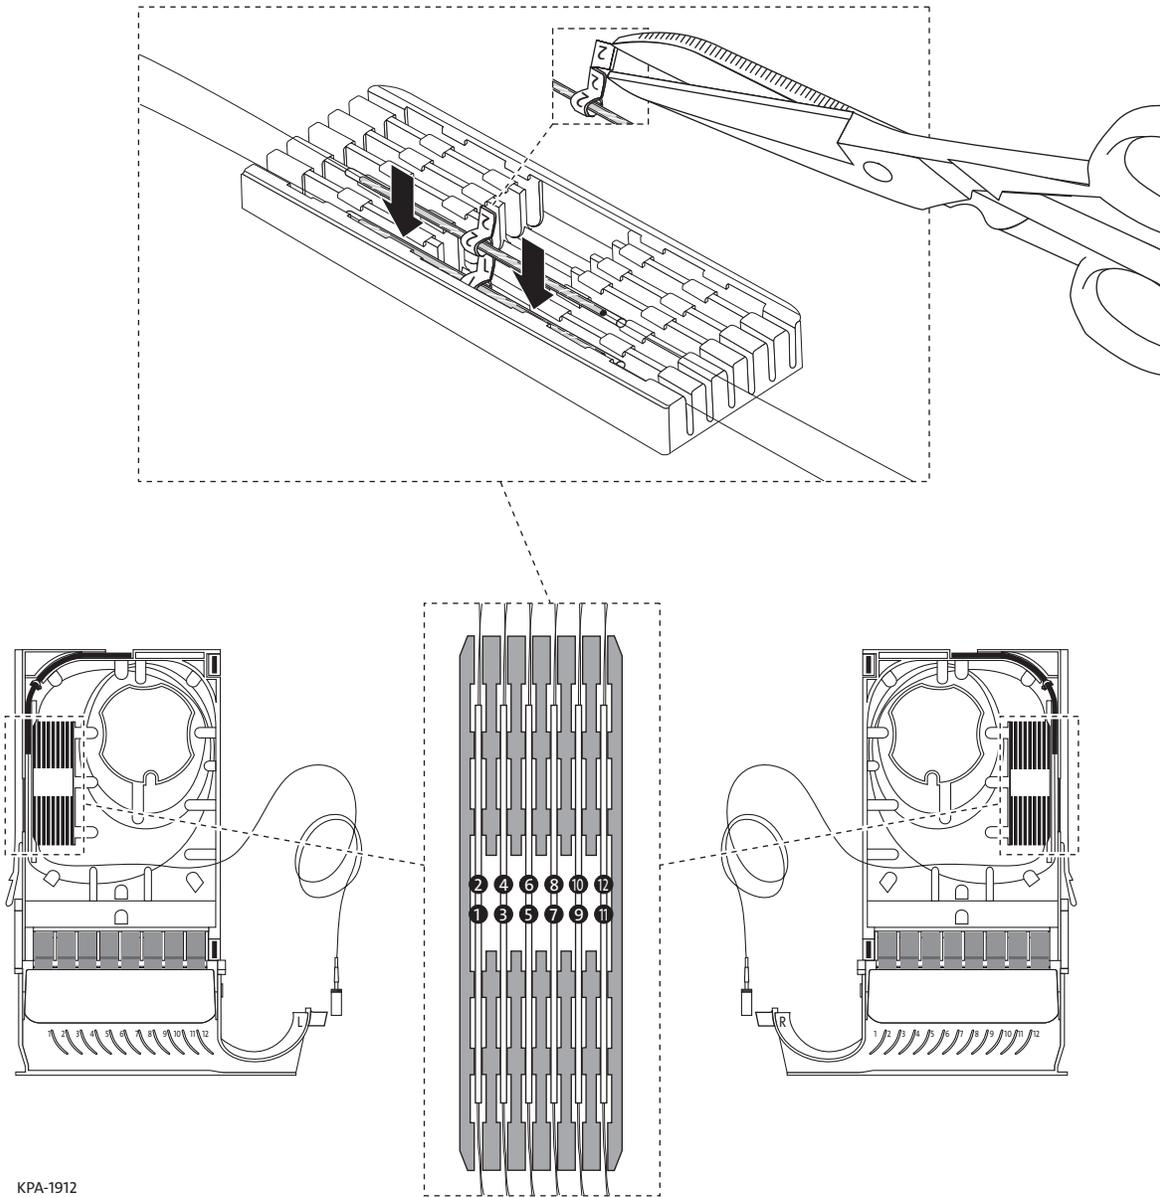
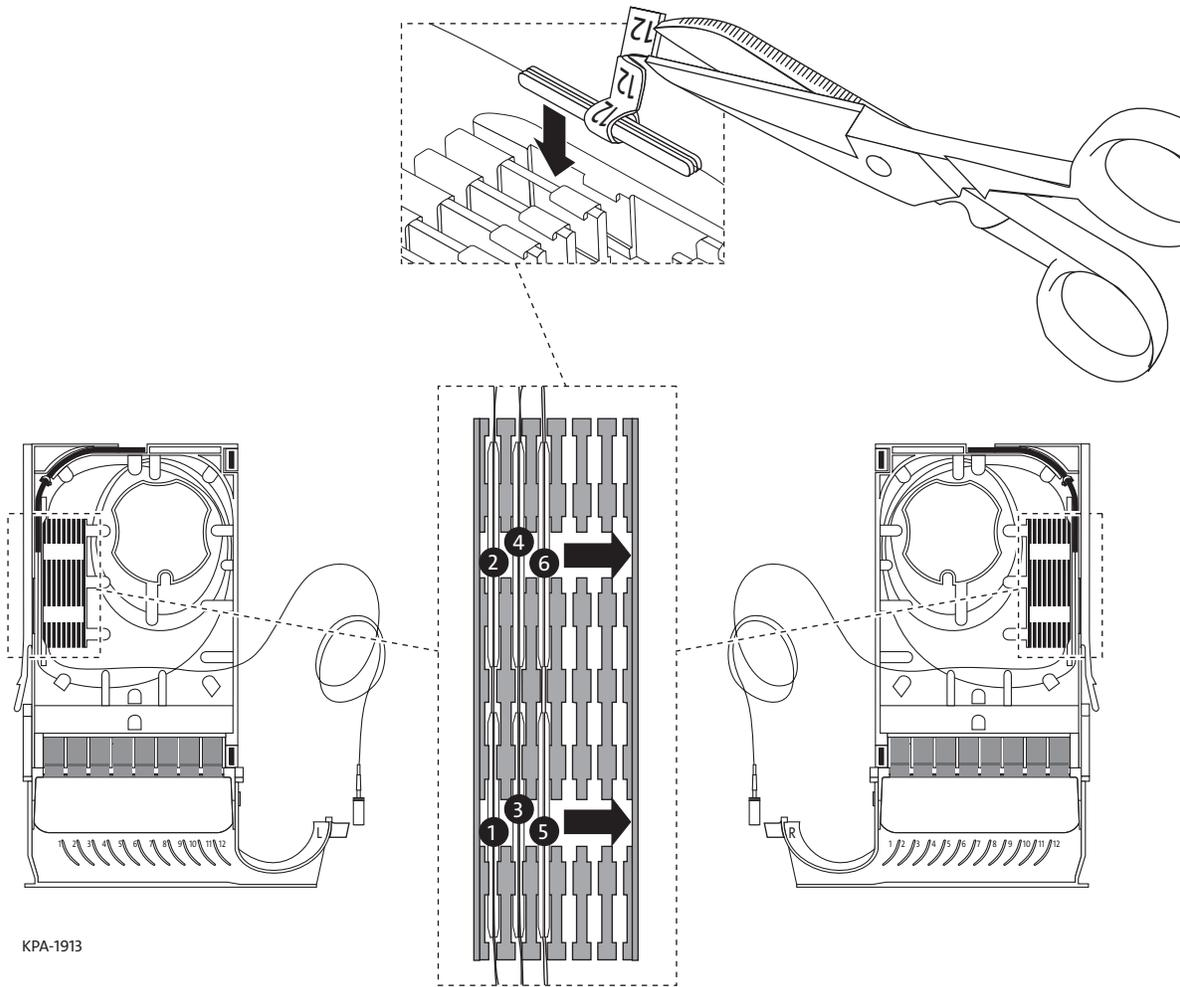

Figure 29
Figure 30
Step 5: Number and store the first splice point in the module inside the heatshrink splice insert (Figure 29) or inside the Q-pak splice insert (Figure 30) in the order shown for each insert.